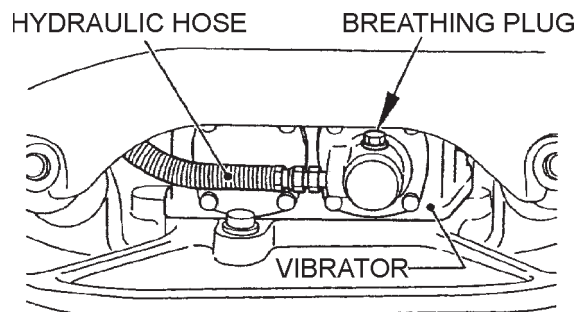

Figure 22. Hydraulic Hose/Breather Plug
1. After removing plug cap of hand pump (Figure 10), remove plug of breather (24 mm wrench) and disconnect vibrator side of hydraulic hose (Figure 22) at vibrator cylinder. With travel lever placed in the **FORWARD** position, drain hydraulic oil in the pump.